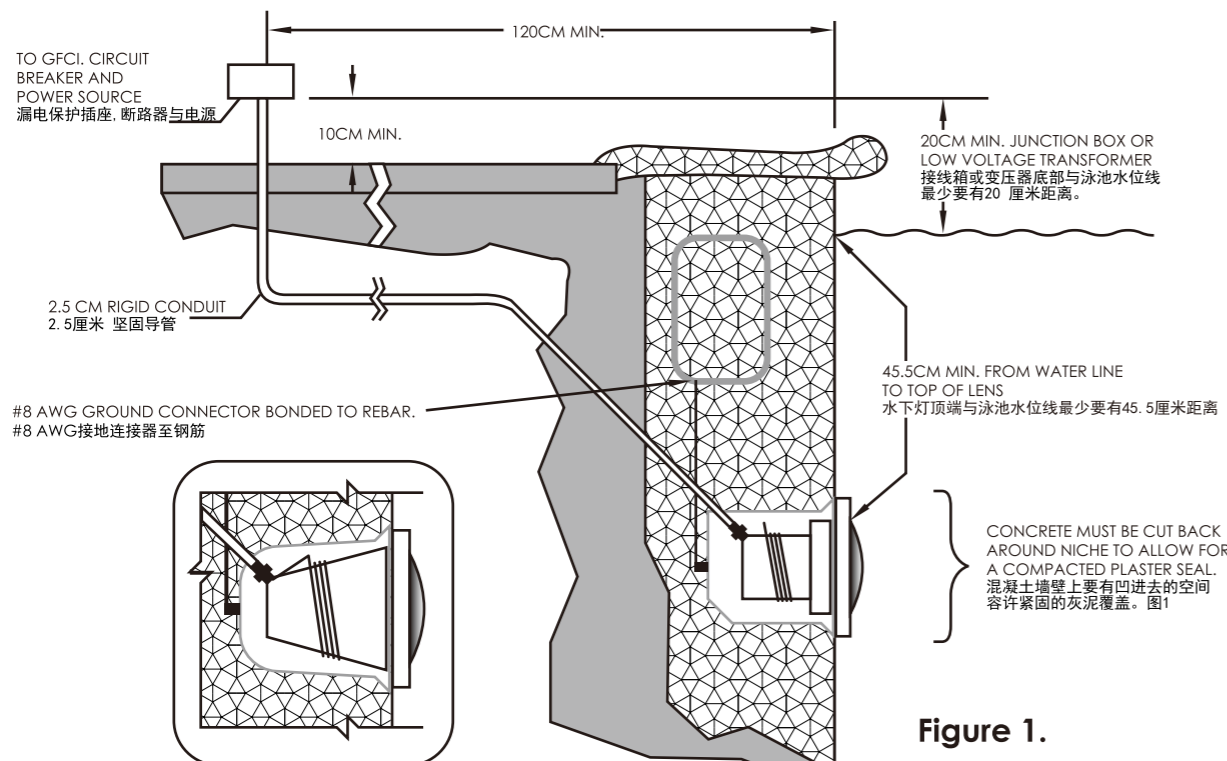

Figure 1.
A) The electrician must complete preparatory steps before light fixture is installed; see Figure 1.
安装水下灯前，电工必需完成的准备步骤。见图1
- b) The Junction Box (or, for 12 volt models, the low voltage transformer) must be located at least 20CM above water level, at least 10CM above ground level, and at least 120CM from the edge of the pool; see Figure 1.
- d) The wet niche must be properly installed so that the top edge of the underwater light's lens is at least 45.5 below the surface of the water in the pool; see Figure 1.
- e) The wet niche must be properly electrically bonded and grounded via the No.8 AWG ground connector located at the rear of the niche; see Figure 1.
- b) 接线箱或12伏特低电压变压器与泳池水位线最少要有20厘米高距离，离地20厘米高，离水池边缘最少要有120厘米距离。见图1
- d) 水下灯外壳必须适当地安装好，水下灯顶端与泳池水位线最少要有45.5厘米距离。见图1
- e) 水下灯外壳后面必须用8 AWG导线接好，且接地良好。见图1
- 1) Feed cord through conduit to Junction Box, leaving at least 120CM of cord at the light fixture to coil around the light; see Figure 1. This 120CM of cord around the light allows the light to be serviced after the pool is filled with water.
- 3) Strip 15CM of the outer cord jacket to expose the three insulated wires. Be careful not to damage the insulation on the three (3) inner wires.
4) Connect all three (3) wires to the corresponding circuit wires in the Junction Box, and secure the Junction Box cover in place.